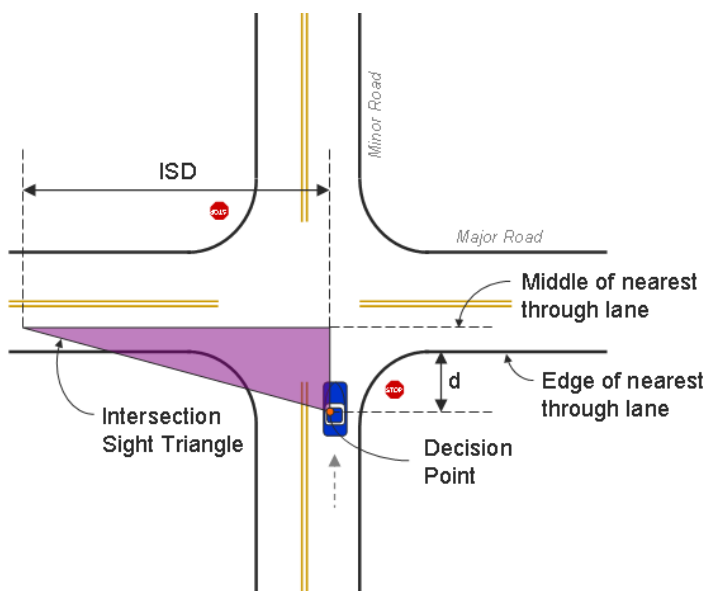

Figure 1. Left turners looking left
- A. Stop control:** The sight triangles for a stop controlled minor road with left turns allowed shall be based on Figures 1 & 2 and Table 1. The left turning movement requires a longer intersection sight distance than the right turning movement; therefore, the criteria for the left turn conditions apply.
- A. Signals with off peak or night time flash operations shall follow the criteria for two-way stop sign control on the red flashing approaches (Figures 1 & 2 and Tables 1 & 2).